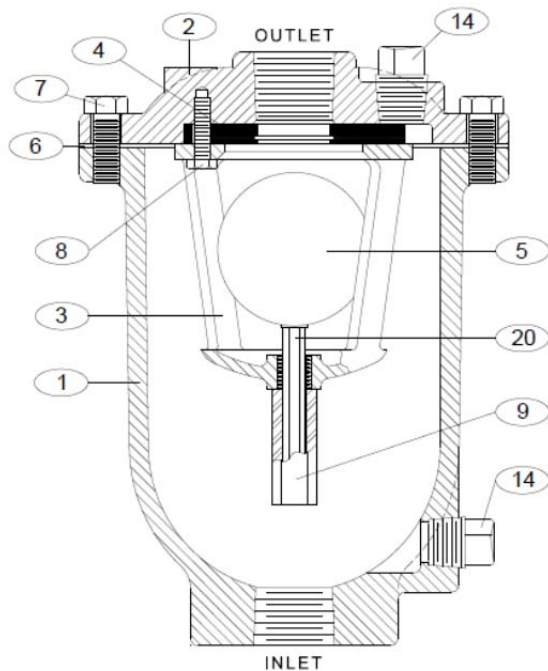

FIGURE 2. 1/2"-3" AIR/VACUUM VALVE
The Air/Vacuum Valve body and cover are cast iron. All internal components are stainless steel with the exception of the valve seat which is resilient. The float (5) and float guide (20) are the only moving parts assuring long life with minimal maintenance. The general details of construction are illustrated in Figure 2. The body (1) is threaded for connection to the pipeline. The seat (4) is retained in the cast cover (2). The seat (4) is retained by a baffle (3).